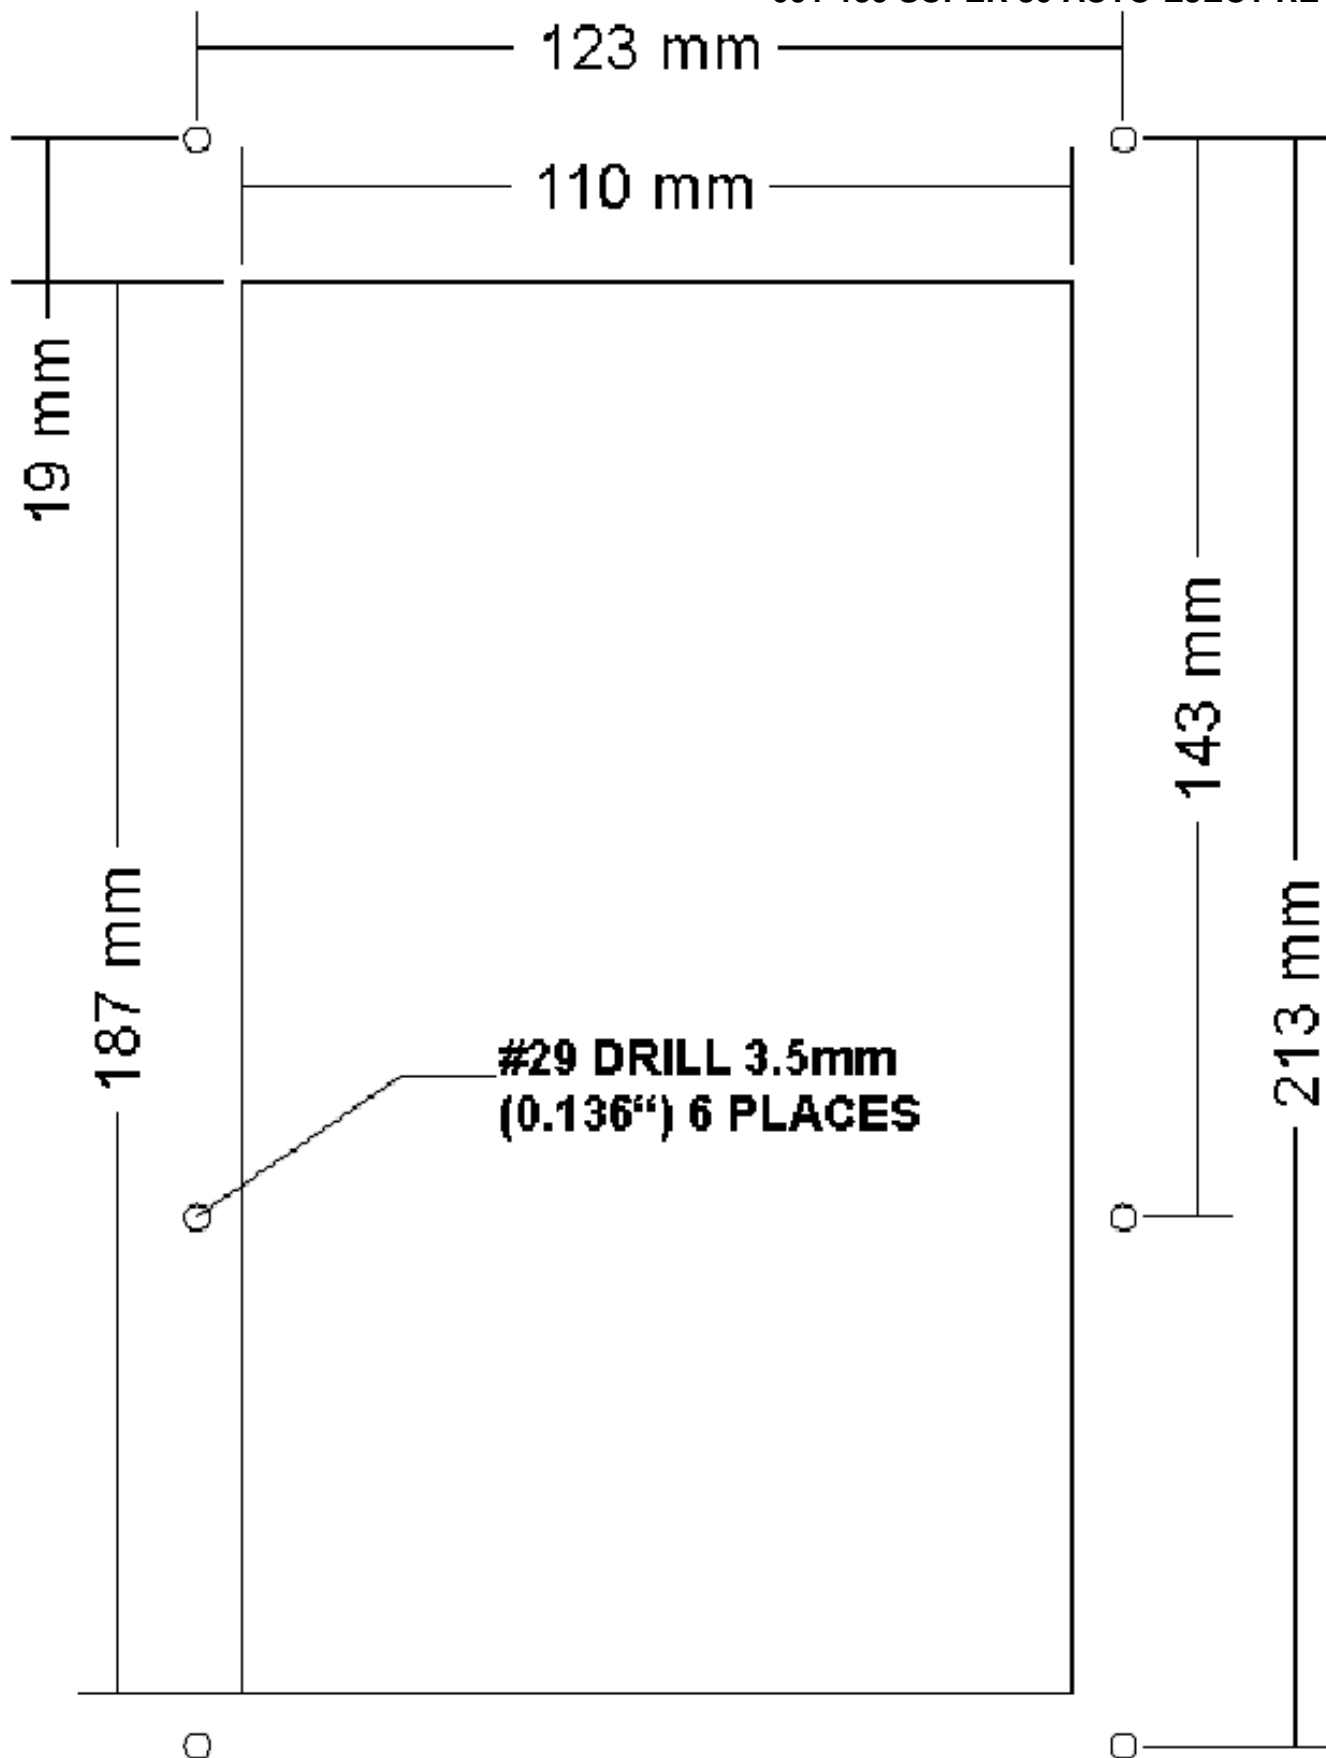

Figure 4: Hole template
3. Place the hole template (figure 4) in position and center punch in 6 places.